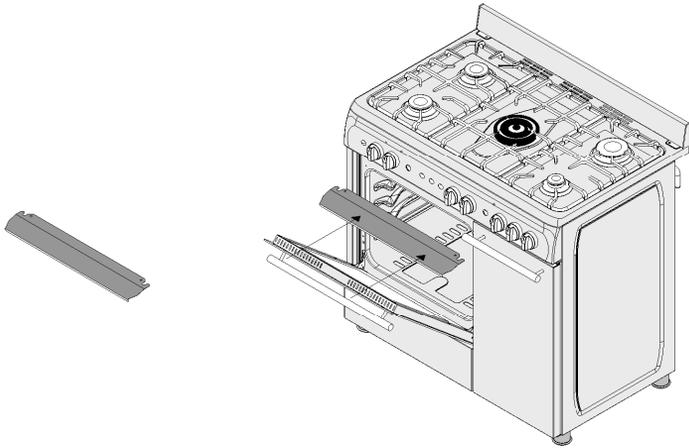

Figure 1
1. A safety panel is designed to protect control panel and the buttons when the oven is in Grill mode (Figure 1)